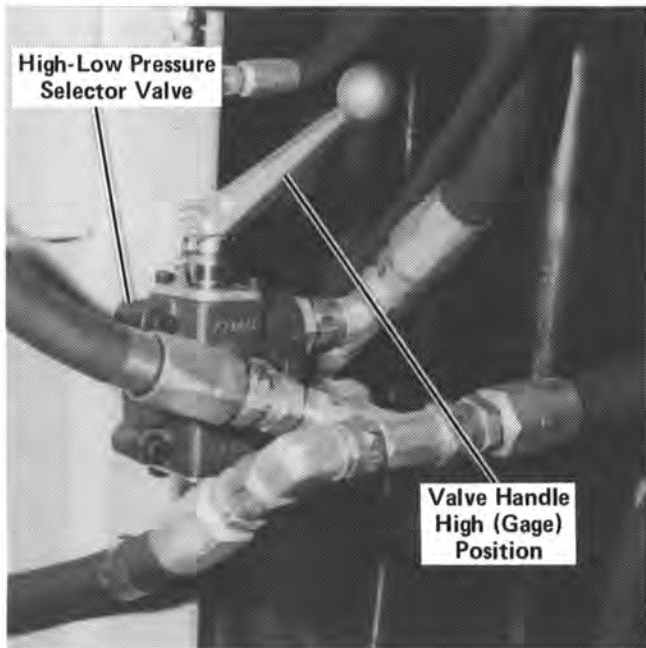

Figure 40
2. Position the High-Low Selector Valve handle into the high or up position completely extending the spool. See Figure 40.
2. Position the High-Low Pressure Selector Valve handle in the gaging or up position. See Figure 40. Depress the gager button on the back side of the left hand trigger box at either right hand or left hand gun control assembly. See Figure 3. Depressing this button will light the green pilot lamp on either the main logic box or the meter box assembly indicating that the logic system is in the gaging mode.
3. Position the High-Low Pressure Selector Valve handle into the high or up position with the spool completely extended. See Figure 40.